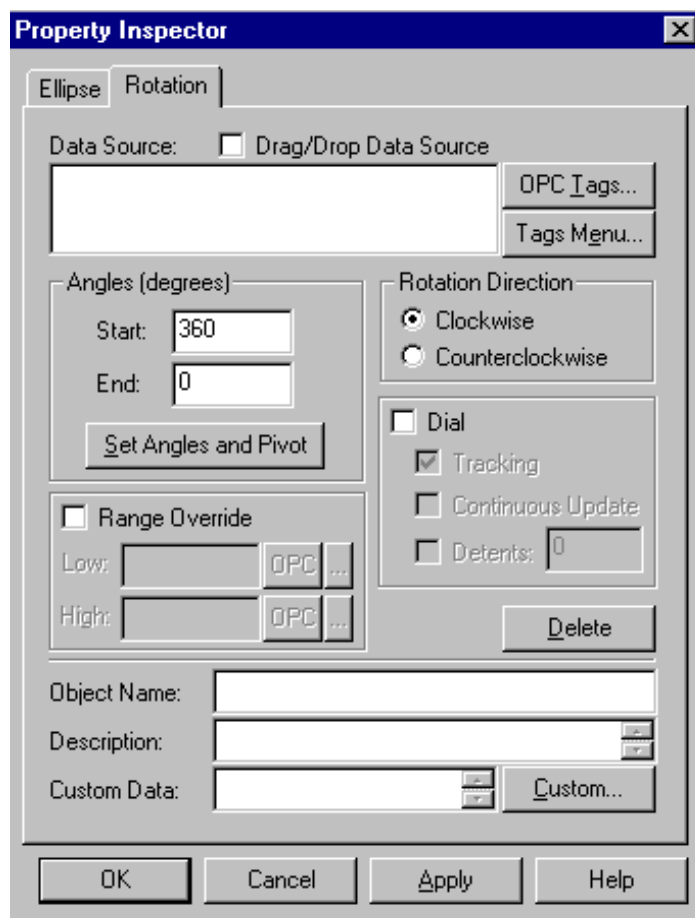

Figure 10-5: Property Inspector for a Rotation Dynamic
2. On the Dynamics menu, select a dynamic to add. The Property Inspector appears for the type of dynamic specified. Figure 10-5 is an example of a Rotation dynamic.